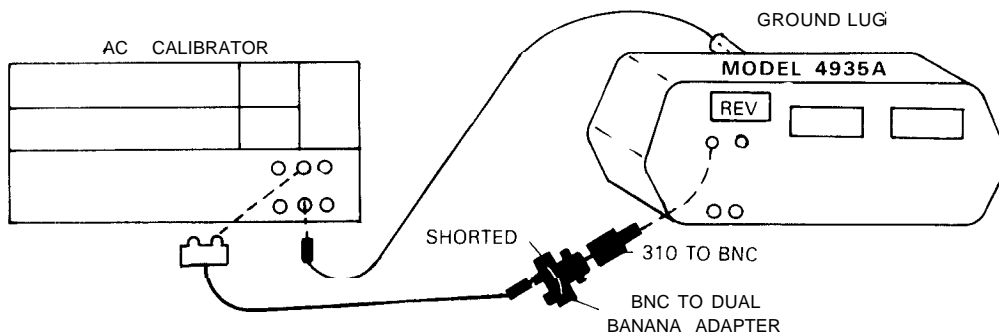

Figure 4-15. Noise to Ground Test
1. Connect equipment as shown in Figure 4-15. On 4935A select: